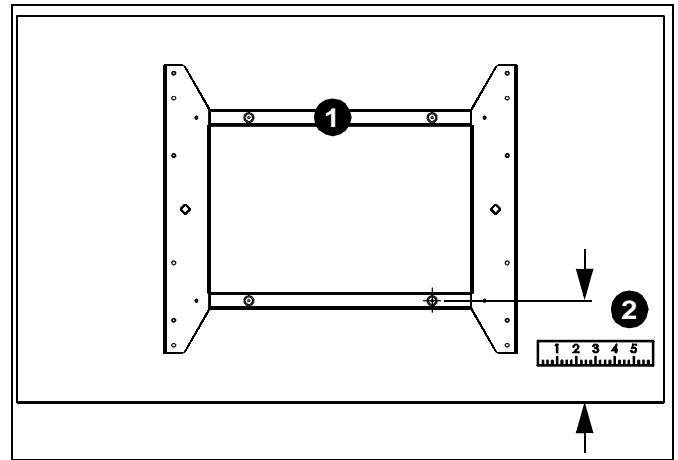

Figure 2
**IMPORTANT ! :** If the dimension taken in figure 2 is greater than 16" (406mm), the faceplate will need to be adjusted before mounting the display. If the dimension taken in figure 2 is less than 16" (406mm) proceed to *Cable installation and Routing* below.
Subtract 16" from the dimension determined in figure 2. The difference between the two is the total amount of adjustment the faceplate will require.